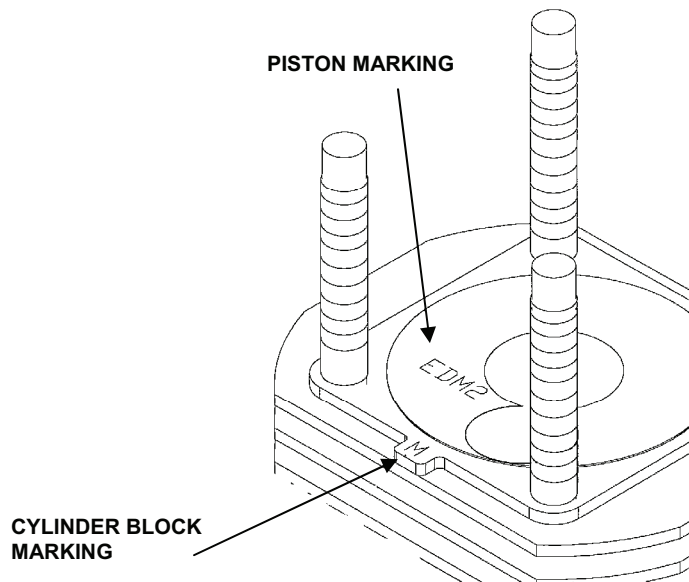

Figure 8. Piston Orientation.
2. Ensure the marking on the piston is on the same side as the marking on the cylinder block. See Figure 8.